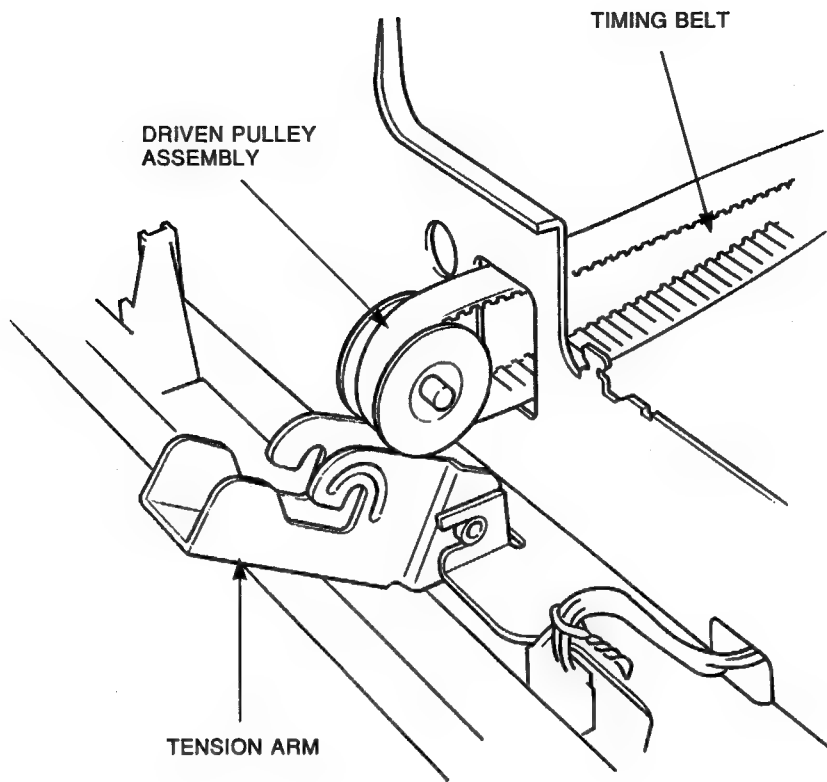

Figure 3-24 Driven Pulley Assembly
2. Remove the driven pulley assembly from the tension arm (see Figure 3-24).
3. Remove the timing belt from the driven pulley assembly (see Figure 3-24).